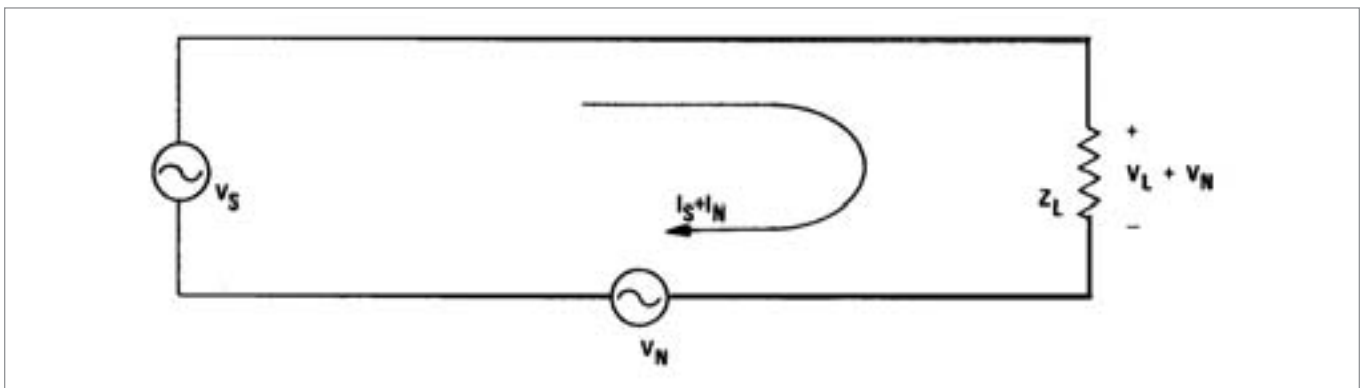

Figure 16
From that figure, it is easily seen that using the chassis or enclosure as an electrical return path would result in “ground” impedance being undefined and something other than the assumed zero (0) ohms. This impedance is comprised of two terms, the resistance (due to material and frequency) and inductance (due to geometry). Unfortunately, this would *not* be evident from looking at the schematic for the system and result equivalent circuit from this practice is shown in Figure 16 (page 70).
Since the chassis conductive path is very small (compared to earth) – there may be significant path impedance (Figure 16), *resulting in unexplained “ground shift” conditions.*